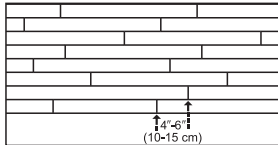

Figure 4
- Be attentive to staggering the ends of the boards at least 4"~6" (10-15 cm) when possible, in adjacent rows (Figure 4). This will help ensure a more favorable overall appearance of the floor.
- End-joints of adjacent rows should be staggered a minimum of 4"-6" (10-15 cm) when possible, to ensure a more favorable overall appearance (Figure 4).
- Check for a tight fit between all edges and ends of each plank. End-joints of adjacent rows should be staggered 4"-6" (10-15 cm) when possible, to ensure a more favorable overall appearance (Figure 4).